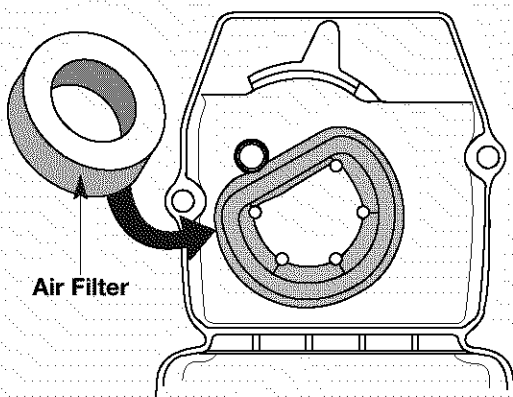

Fig. 24
2. Remove the air filter from behind the air filter/muffler cover (Fig. 24).
6. Replace the air filter in the air filter/muffler cover (Fig. 24).